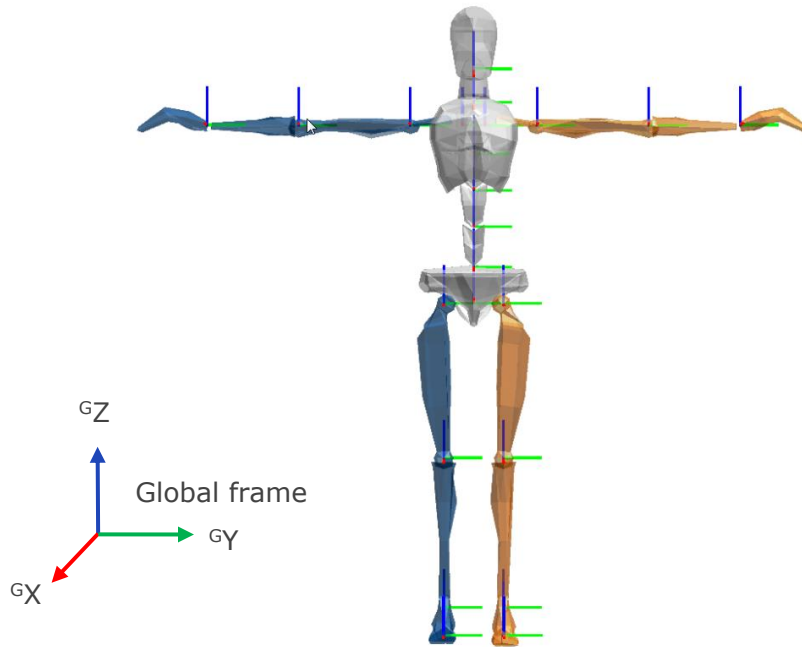

Figure 89: Segment coordinate system at each segment origin, as is used in MVN. Legend: x: red, y: green, z: blue
The axes of each body frame (B) are aligned with this Local reference frame (L) when the subject is standing in the T-pose as shown in Figure 89.
The section <segments> defines all positions (pos_b) of connecting joints (prefixed with a "j") and anatomical landmarks (prefixed with a "p") with respect to origin of that segment (in body frame *B*). The body frame (*B*) of this list of points is defined by Figure 89.